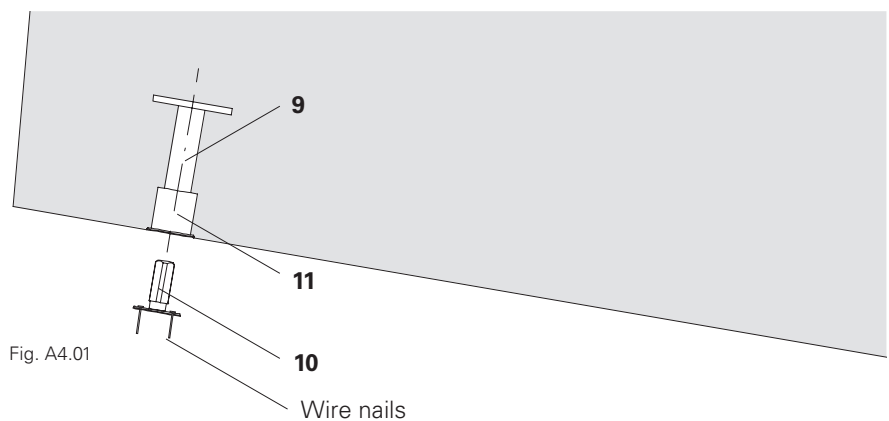

Fig. A4.01
2. Unscrew the Anchor Positioning Stud M24 (10) from the anchor sleeve by means of an Allen key (AF 14). (Fig. A4.01)